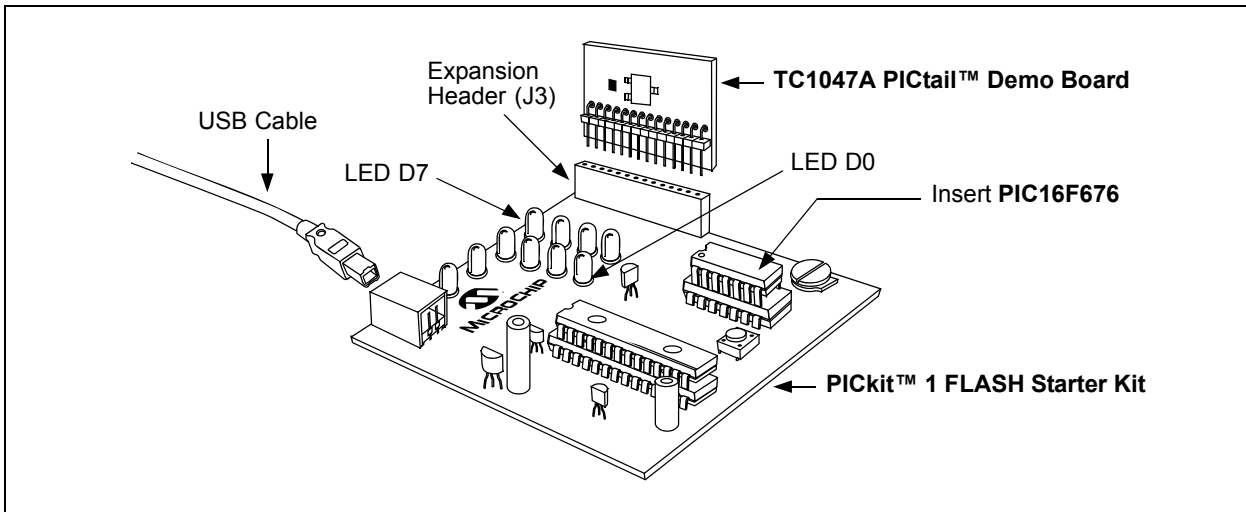
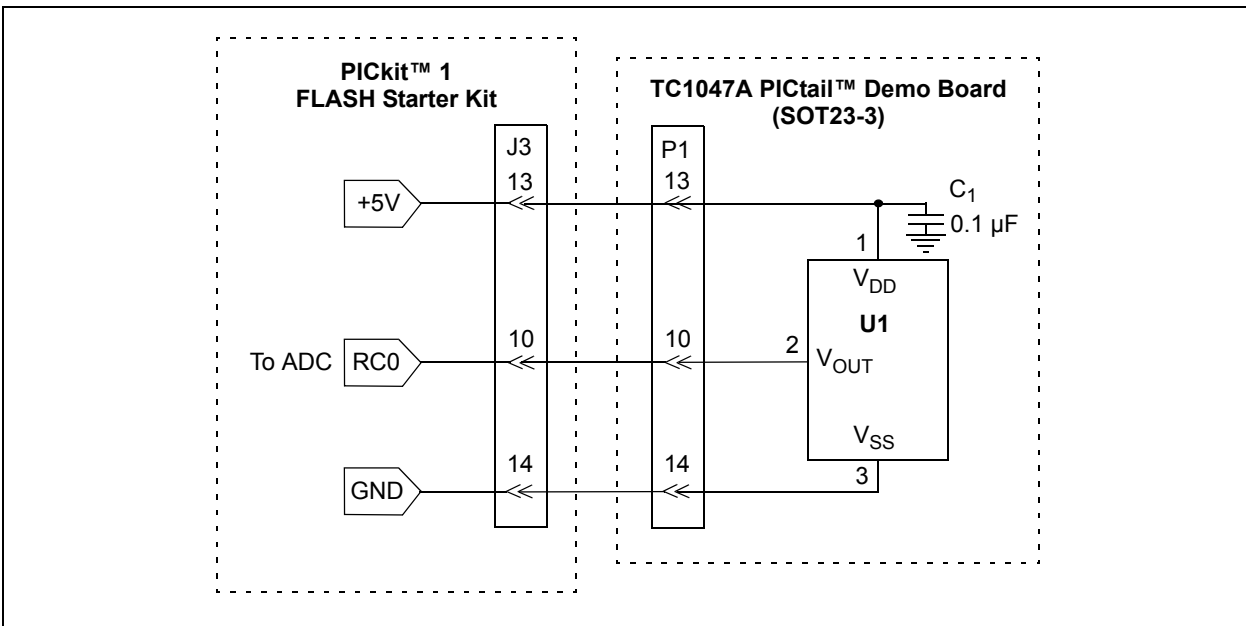

FIGURE 2-2: TC1047A PICtail™ Daughter Board and PICKit™ 1 Flash Starter Kit.
FIGURE 2-3: Simplified TC1047A PICtail™ Daughter Board Schematic.
1. Connect the P1 header of the TC1047A Temperature-to-Voltage Converter PICtail™ Demo Board to the J3 connector on the PICKit 1 Flash Starter Kit board. Refer to Figure 2-2 for proper orientation of the TC1047A Temperature-to-Voltage Converter PICtail™ Demo Board and Figure 2-3 for the simplified board schematic.